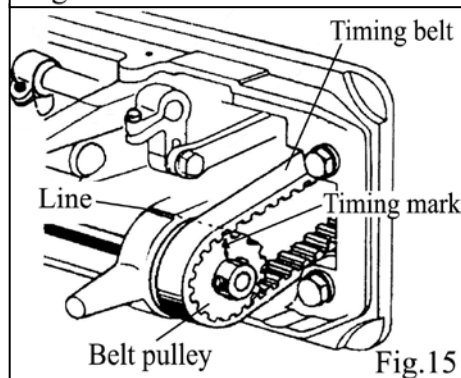

Fig.15
13. TIMING BETWEEN ROTATING HOOK MOTION AND TAKE-UP LEVER MOTION (Fig.15)